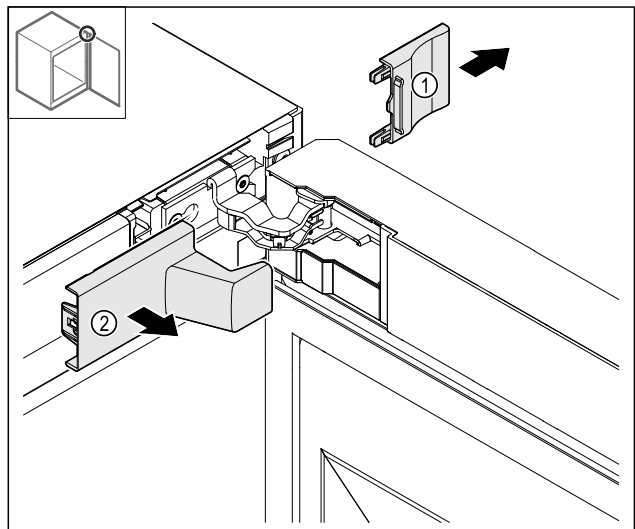

Fig. 8
- ▶ Remove the cover *Fig. 8 (1)* and then *Fig. 8 (2)*.